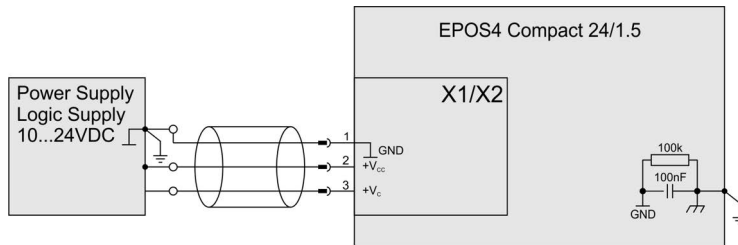

Figure 5-66 Power & logic supply
**Power supply** & optional logic supply ..... Figure 5-66
**Power supply & optional logic supply** ..... Figure 5-66